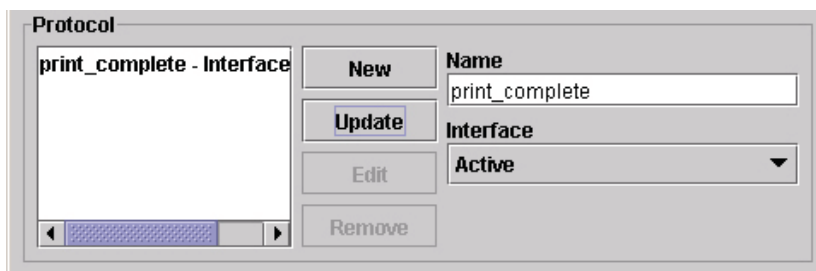

Figure 169 Adding Protocols
11. Click **Add** to add it to the list of protocols. See Figure 169.